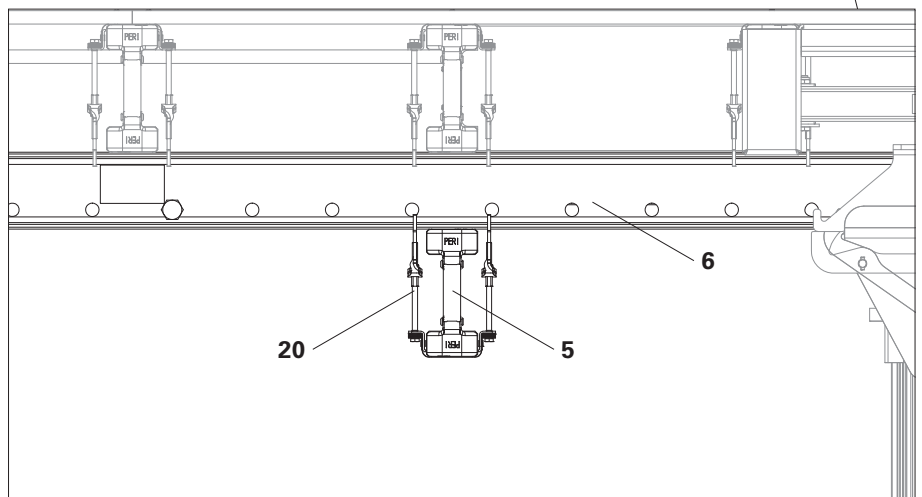

Fig. C1.10b
1. Attach Girder VT 20K (5) to the Steel Waler SRU U120 (6) using 2x Hook Strap Uni HBU 20-24 (20). (Fig. C1.10b)